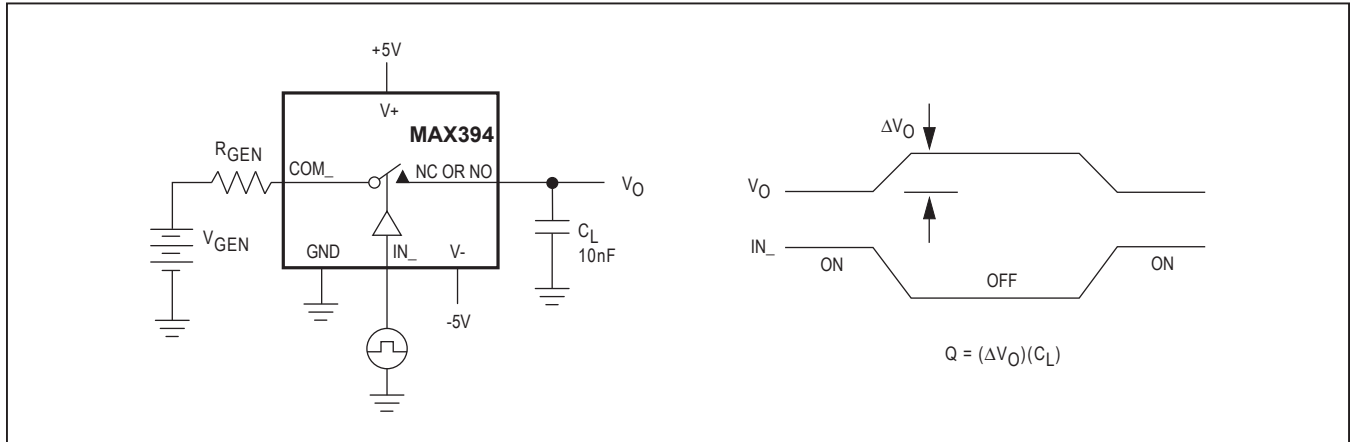

Figure 6. Charge Injection
**Note 6:** See Figure 6. Off-isolation =  $20\log_{10} V_{COM}/V_{NC}$  or  $V_{NO}$ . VCOM = output, VNC or VNO = input to off switch.